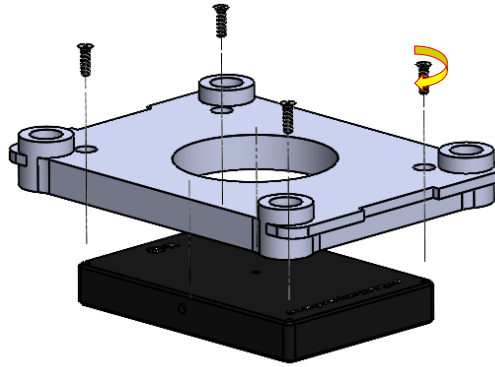

FIGURE 5.2: GRx (PRx) COIL FIXING - #1
1. Assemble the GRx coil to the GRx coil supporting plate using four screws, as shown in Figure 5.2 below.